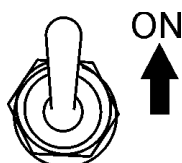

Figure 23. Idle Control Switch (ON)
- Let the engine idle for five minutes with the **Idle Control Switch** (Figure 23) placed in the **ON** position.
Placing the idle control switch (Figure 23) in the **OFF** position allows the engine to operate at a maximum speed of about 3600 RPM's.